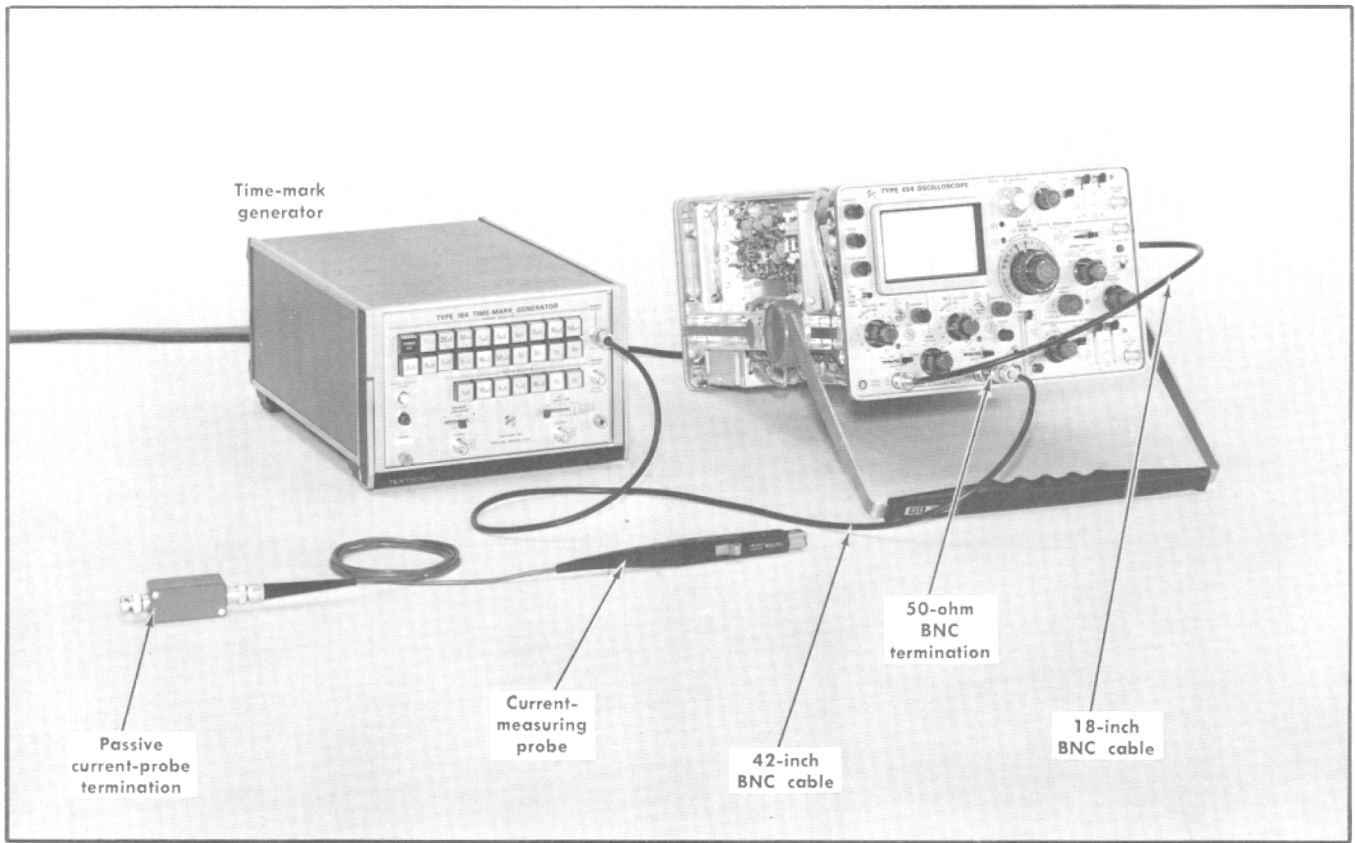

Fig. 6-62. Initial test equipment setup for steps 77 through 80.
- a. Test equipment setup is shown in Fig. 6-62.